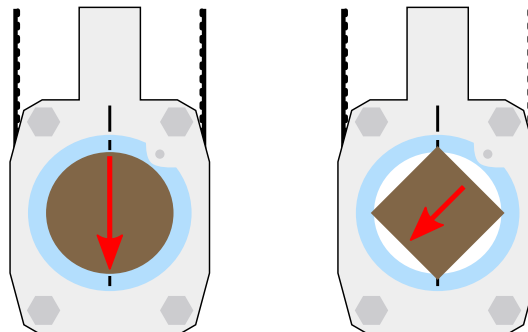

Figure 8: Inserting positions for 3D Rotator
Switch **ON** the Kappabridge, run the SAFYR software, push **ACTIVATE** button, choose AMS measuring mode and continue with the activation. Software detects the type of connected rotator automatically. Run `Execute|Calibration` and `Execute|Holder Correction` using 3D rotator. Routines are similar to the using Classical Rotator. Major difference is in the inserting position of the specimen which is as shown on the Fig.8.
- For calibration with the **3D rotator** insert the calibration standard as shown on Fig. 8.